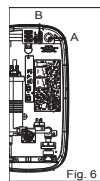

Fig. 6
5.6 Insert the wall embedded cable through Side Entry 'A' by cutting a hole at the source cord rubber holder and lead the cable to Cable Bracket 'B'. (Fig. 6)